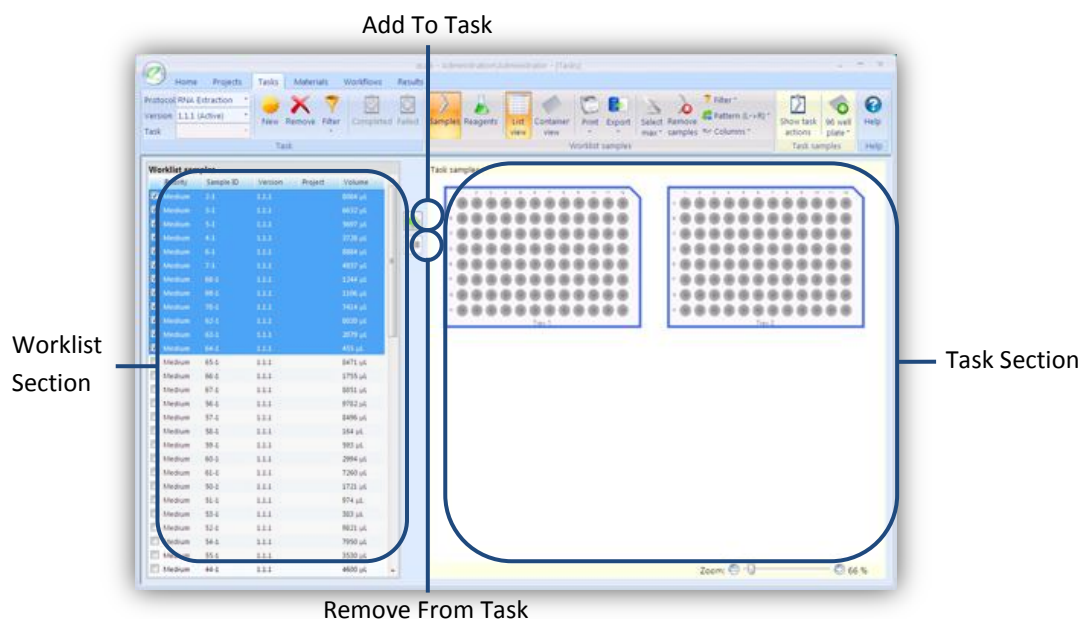
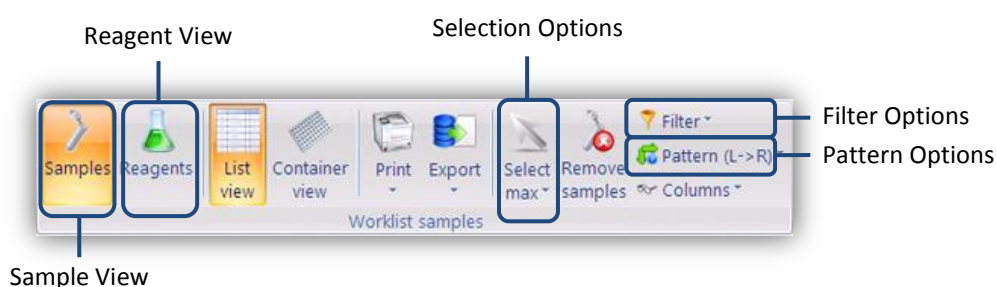

Figure 19.1. The *Task* screen.
Figure 19.3. The Worklist samples group.
The task screen is divided into two sections, the worklist section and the task section (see Figure 19.1). The worklist section toggles between displaying the samples in a particular worklist (i.e. sample assigned to be performed by a particular protocol) and displaying the reagents required for the protocol associated with the worklist. The task section displays a view of the containers that the samples and reagents will be added to when performing the task. Both sections are able to display sample data in either a virtual representation of the containers holding the samples or a spreadsheet like view.
Select the samples from the worklist that you would like to use in a task. You can manually select the samples or use the **Filter** drop down control together with the **Select** drop down control to select the appropriate number of samples from the top of the list (see Figure 19.3). Press the **Add-To-Task**
control (see Figure 19.1) to move selected samples from a worklist to a selected container. Samples are positioned from the first free or first selected well in the task section and placed according to the **Pattern** Option control (see Figure 19.3). Alternatively, you can specify a particular layout by selecting wells on the target container – these wells are also filled according to the **Pattern** Option control.
- When you add samples to a working container, by default they are removed from the worklist. Use the **Show transfer samples** option from the **Filter** control in the **Worklist Samples** group (see Figure 19.3) to change this setting.